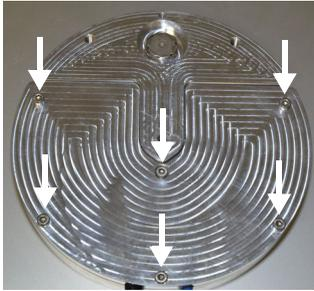

Figure 4: Cable connection compartment
1. Unscrew the 6 screws of the cable connection compartment (using the enclosed Allen wrench) and open the metal lid (see Figure 4).
6. Close the metal lid and fasten all 6 screws (see Figure 4).